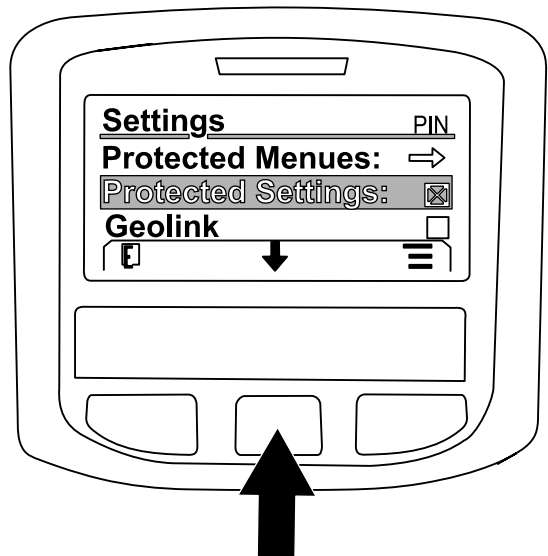

Figure 268
7. Press the center button to navigate to the GEOLINK option, and press the right button to set the option (Figure 268).